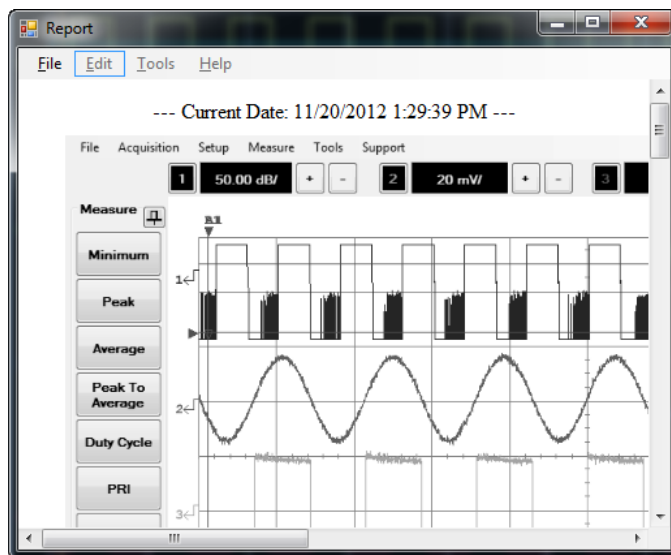

Figure 2-153 Generated report
- 6 An example of the generated report is as shown in Figure 2-153.